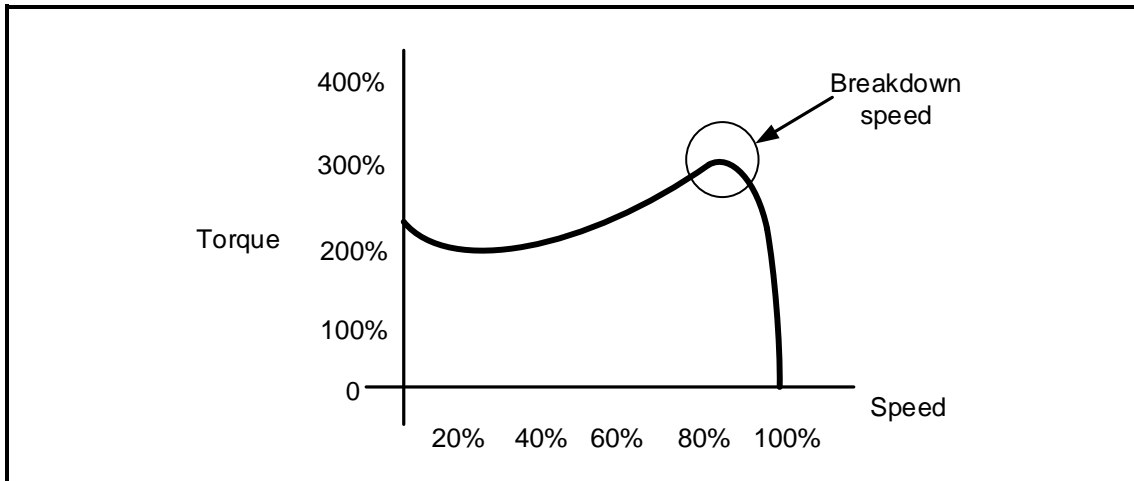

FIGURE 7.7: TORQUE VERSUS SPEED CURVE
7.7 FIGURE 7.7 below shows the characteristic curve of speed versus torque when a VSD is used to control the speed of a three-phase induction motor. Study the characteristic curve and describe the start-up and run profile of an induction motor.